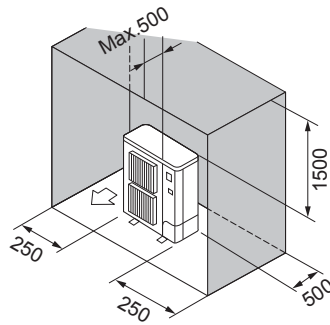

Fig. 2-8
- ⑥ Obstacles at rear, sides, and above only (Fig. 2-8)